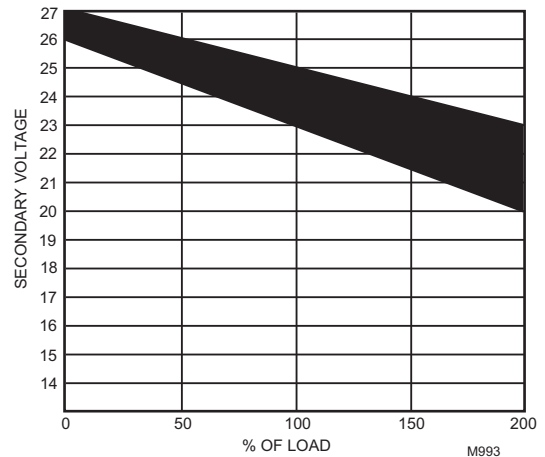

Fig. 21. NEMA class 2 transformer voltage output limits.
This means that four volts are going to be lost between the transformer and the controller; therefore, to assure the controller receives at least 20 volts, the transformer must output more than 24 volts. Because all transformer output voltage levels depend on the size of the connected load, a larger transformer outputs a higher voltage than a smaller one for a given load. Fig. 21 shows this voltage load dependence.
In the preceding I x R loss example, even though the controller load is only 37 VA, a standard 40 VA transformer is not sufficient due to the line loss. From Fig. 21, a 40 VA transformer is just under 100 percent loaded (for the 37 VA controller) and, therefore, has a secondary voltage of 22.9 volts. (Use the lower edge of the shaded zone in Fig. 21 that represents the worst case conditions.) When the I x R loss of four volts is subtracted, only 18.9 volts reaches the controller, which is not enough voltage for proper operation.
1. Use a larger transformer; for example, if an 80 VA model is used, see Fig. 21, an output of 24.4 volts minus the four volt line loss supplies 20.4V to the controller. Although acceptable, the four-volt line-loss in this example is higher than recommended. See the following **IMPORTANT**.
To meet the National Electrical Manufacturers Association (NEMA) standards, a transformer must stay within the NEMA limits. The chart in Fig. 21 shows the required limits at various loads.